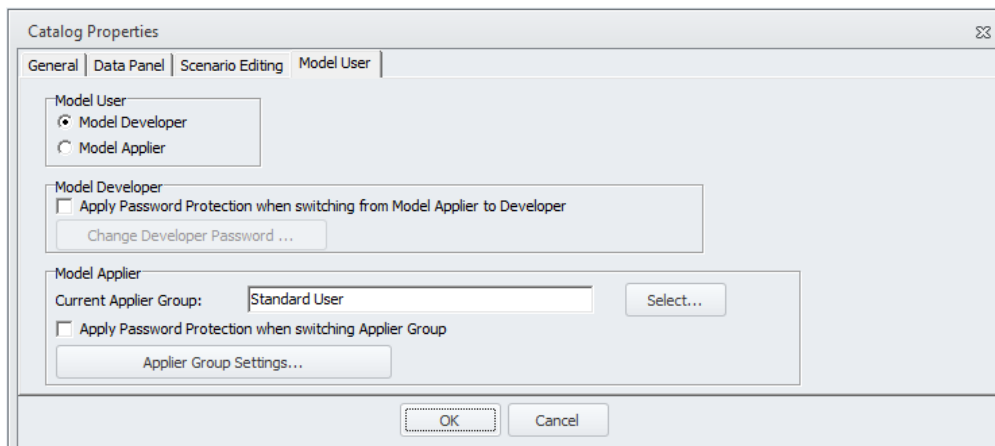

Figure 45 How to set the model to Model Applier>Standard user mode
- In the Catalog Properties window, select the “Model User” tab (see Figure 45)